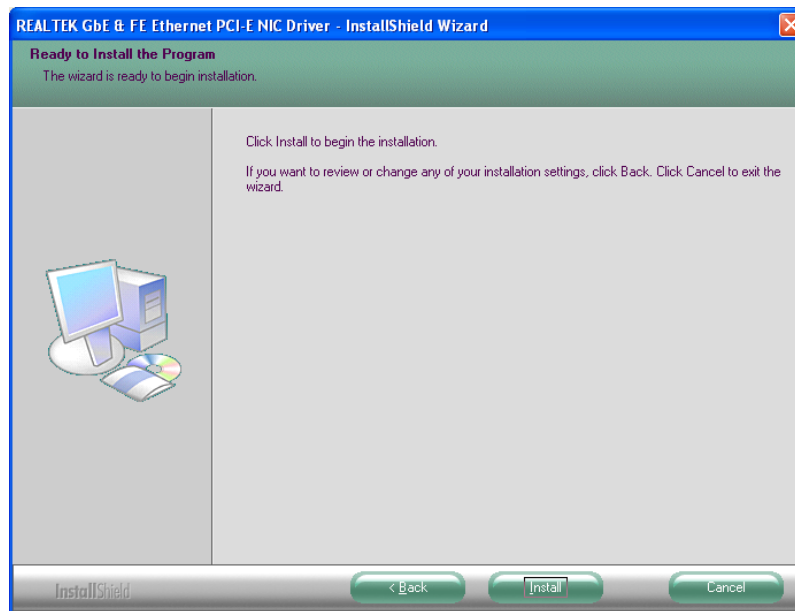

Figure 7-18: LAN Driver Welcome Screen
Step 5: The **Ready to Install** screen in **Figure 7-18** appears.